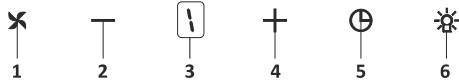

Fig. 16: 5 Spd Dig Button
1. ➤ Press this button to turn on the product. Fig. 16
2. ➤ Press this button to decrease the motor speed. Fig. 16
3. ➤ Dig display You can follow which speed the product is currently working on this display. Fig. 16
4. ➤ Press this button to increase the motor speed. Fig. 16
5. ➤ When timer button is pressed, a 15-minute timer function will be activated; display will give a signal once the timer starts and the motor will stop automatically after 15 minutes. Fig. 16
6. ➤ Press this button to turn on and off the lamp. Fig. 16